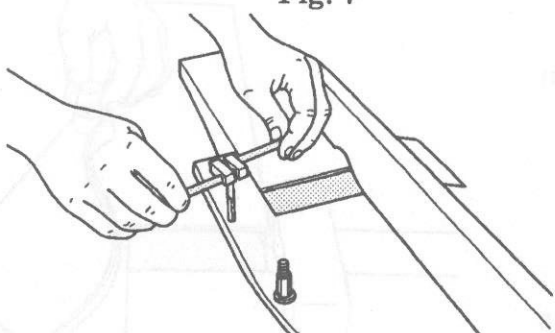

Fig. 9
16. Use a  $1/4"$ -28 tap to make threads in the drilled hole, as seen in Fig. 9. **Do this process:** Start the tap straight in the hole. Make a  $1/2$  turn. Back up a  $1/4$  turn. Add two drops of any kind of oil into the hole. Repeat this process until you have tapped threads through the entire hole.